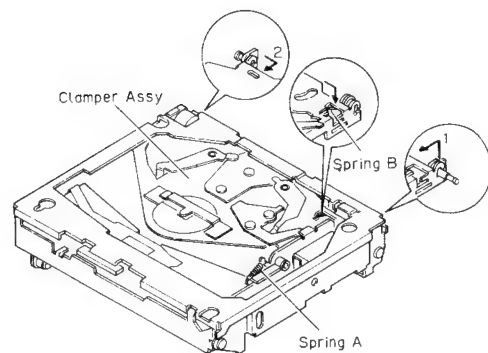

Fig. 6
1. Remove the spring B as indicated by the arrow. (Fig. 6)
2. Remove the spring A. (Fig. 6)
3. Remove the engagement as indicated by the arrows 1 and 2, and then remove the clamber assy. (Fig. 6)